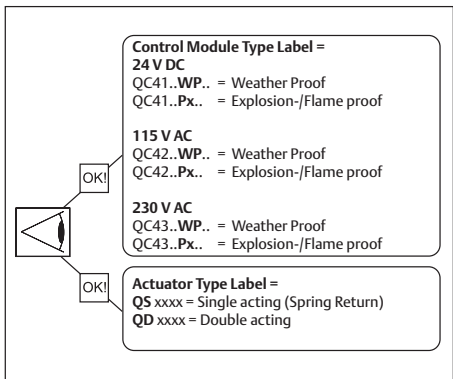

Fig. 2.2 Identification
- * Check the module label for the right execution (see Figure 2.2)
- * Check the type of actuator: single or double acting (see Figure 2.2).